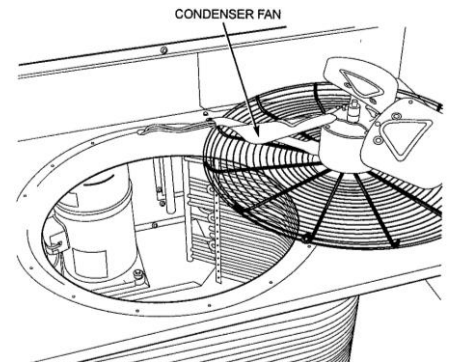

FIGURE 9
**One-Row Coils** – To access one-row coils, remove screws securing condenser-fan grille to condenser coil top cover. Place grille on top of condenser coil top cover as shown in Figure 9. It is not necessary to remove the top cover.